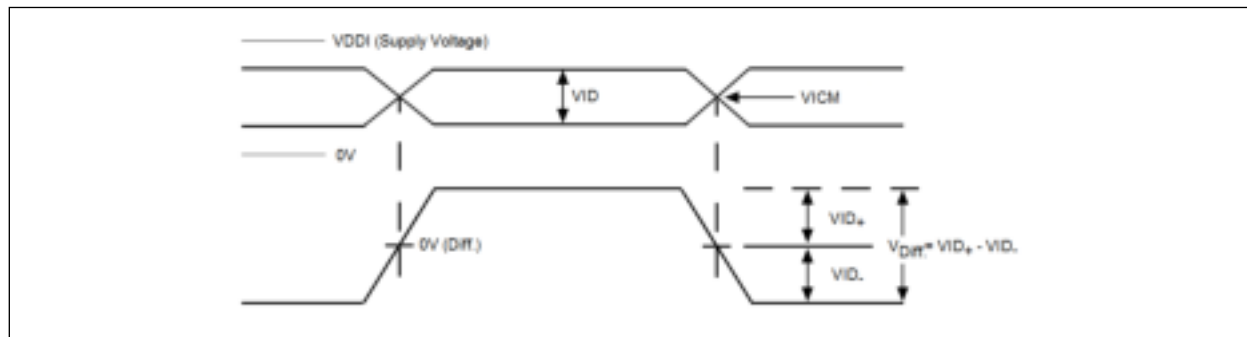

FIGURE 1: V_{ID} and V_{ICM} for Differential Inputs.
- 2:** Figure 1 depicts the V_{ID} and V_{ICM} for the differential inputs. Note that V_{ID} is half of V_{Diff}, and is equivalent to a single-ended signal referenced from one input to ground.